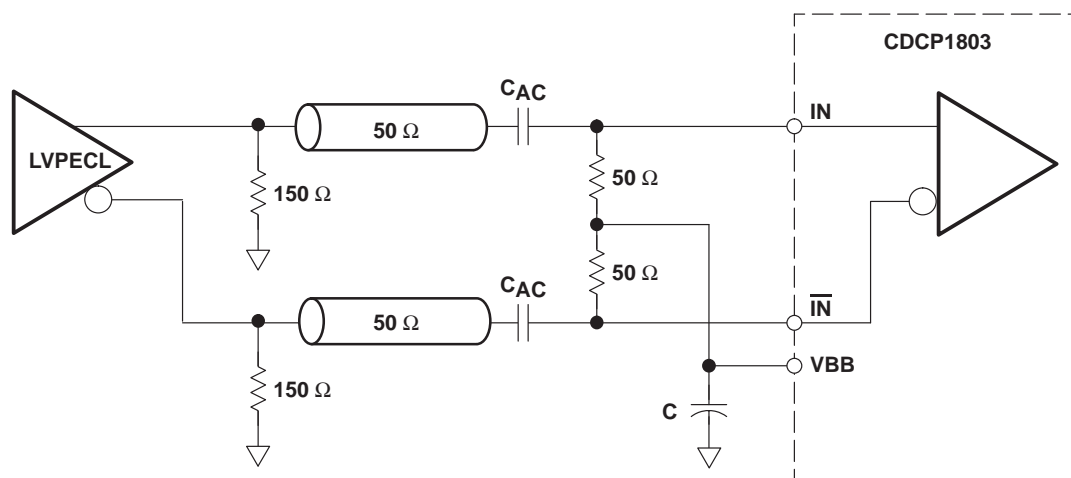

Figure 9. Recommended AC-Coupling LVPECL Receiver Input Termination
For optimized noise performance, it is recommended to properly terminate the PCB trace (transmission line). If a differential signal drives the CDCP1803, then a 100-Ω termination resistor is recommended to be placed as close as possible across the input pins. An even better approach is to install 2x 50 Ω, with the center tap connected to a capacitor (C) to terminate odd-mode noise and make up for transmission line mismatches. The VBB output can also be connected to the center tap to bias the input signal to (V_{DD} – 1.3 V) (see Figure 9).